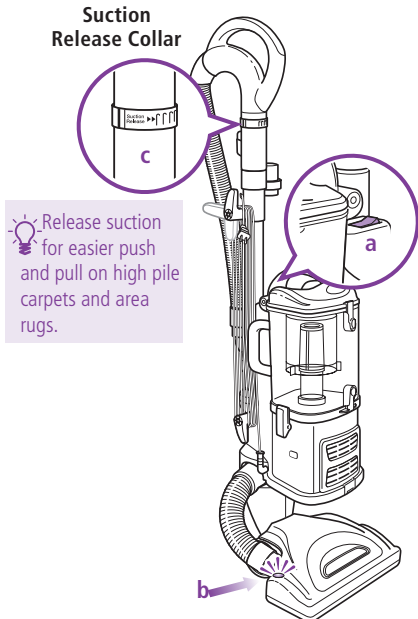

Fig. 11
- 3 Press the On/Off switch (a) to the "I" position to vacuum bare floors (straight suction only) or to the "II" position to engage the motorized floor brush (for vacuuming carpets and rugs). (Fig. 11)
IMPORTANT: The motorized brush indicator light (b) will illuminate green when motorized floor brush is on, or red if there is a blockage or jam. (Fig. 11) This feature is designed to protect your Lifetime Belt that powers your motorized floor brush. See Checking for Blockages on page 15.